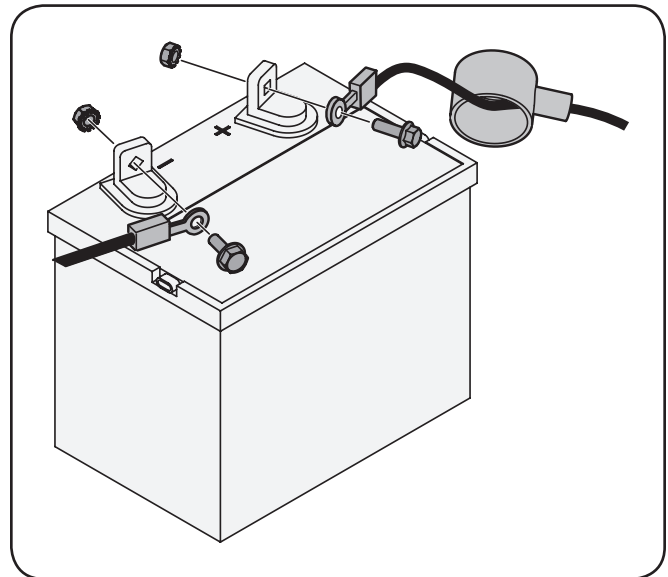

Figure 3-5
1. Remove the plastic cover, if present, from the positive battery terminal and attach the red cable to the positive battery terminal (+) with the bolt and hex nut. See Figure 3-5.
2. Remove the plastic cover, if present, from the negative battery terminal and attach the black cable to the negative battery terminal (-) with the bolt and hex nut. See Figure 3-5.